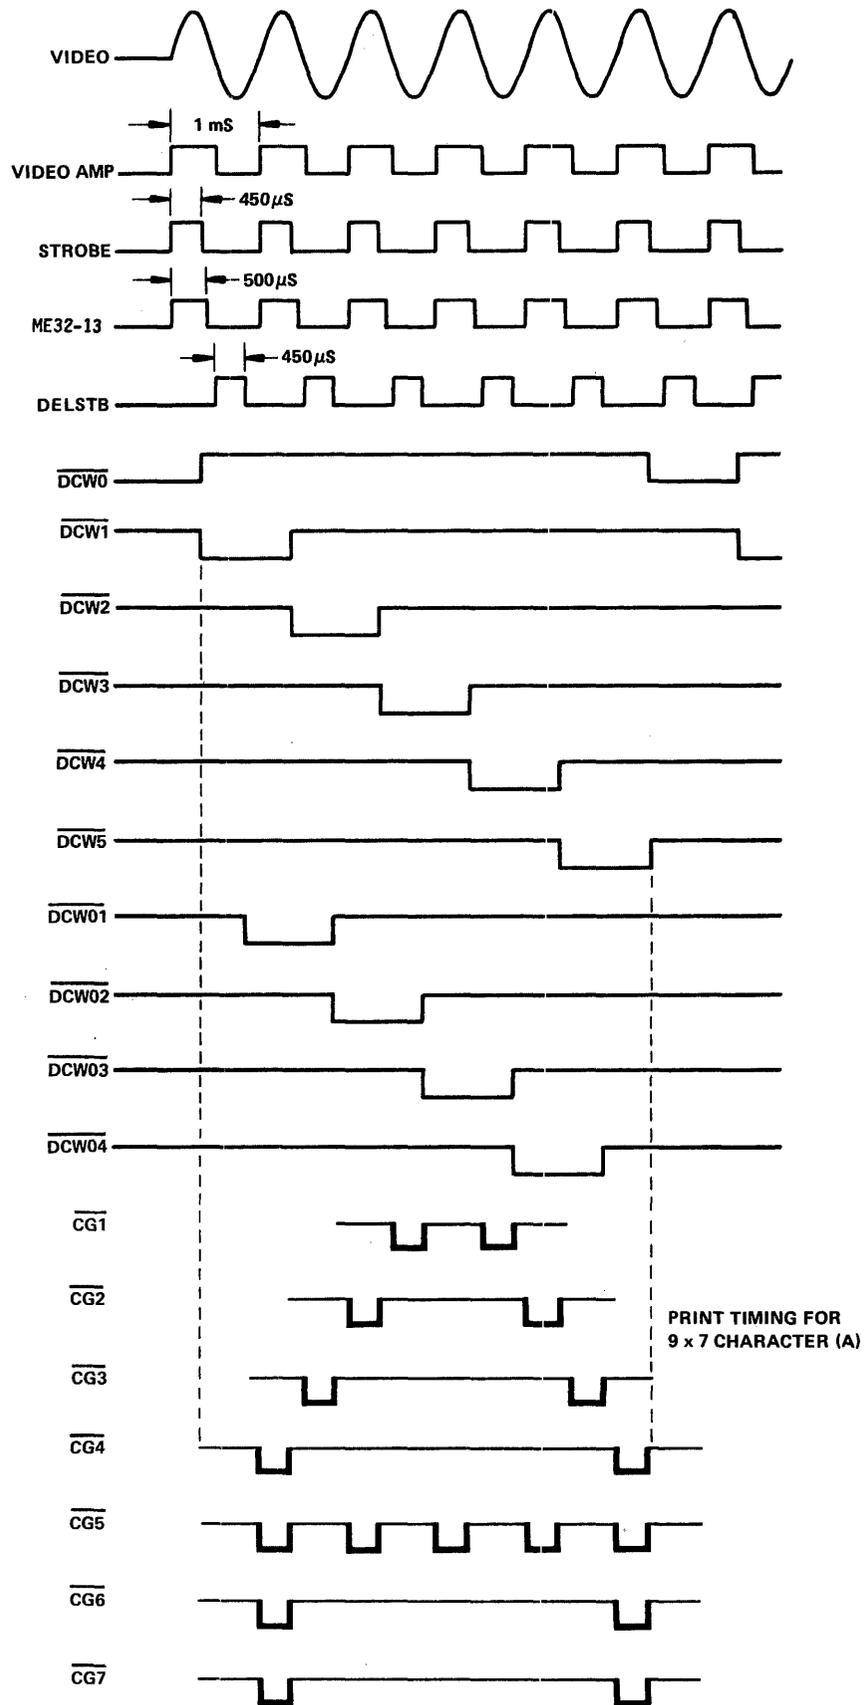

Figure 4-15. CHARACTER TIMING
4.5.3 CHARACTER REGISTRATION AND TIMING (Figure 4-15, Timing; Figure 4-16, Circuit)
As the print head assembly moves across the timing fence, the vertical slots on the timing fence interrupt light to the optical pick-up head, generating a video signal. The VIDEO AMP output then triggers the STROBE one-shot ME18 on the logic card, initiating the print timing shown in Figure 4-15.
4.5.3.2 Timing Signals (Figure 4-15, Timing; Figure 4-16, Circuit)
During each video interval both a STROBE pulse and a DELSTB pulse of the same width is generated as shown in Figure 4-15. During normal character printing (when UCC is high), four consecutive DELSTB inputs to counter ME24 generate timing outputs DCW01-DCW04. These four timing intervals correspond to the four additional ("half-step") columns in the 9 x 7 matrix. Timing signals (DCW01-DCW04) are used to address the appropriate column in the "half-step" ROM (character generator).